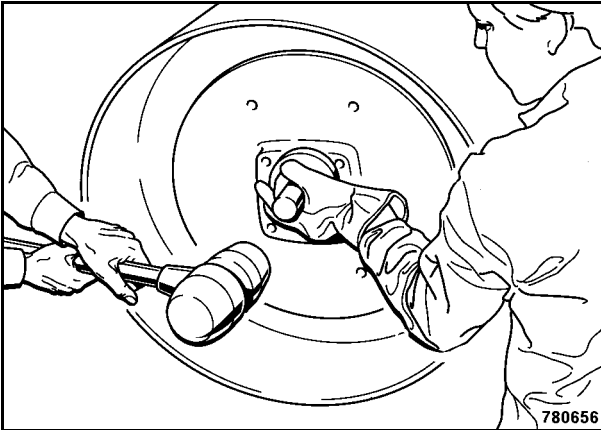

Fig. 15
21. Knock the bearing plate into the bearing housing using a drift punch (Fig. 15).